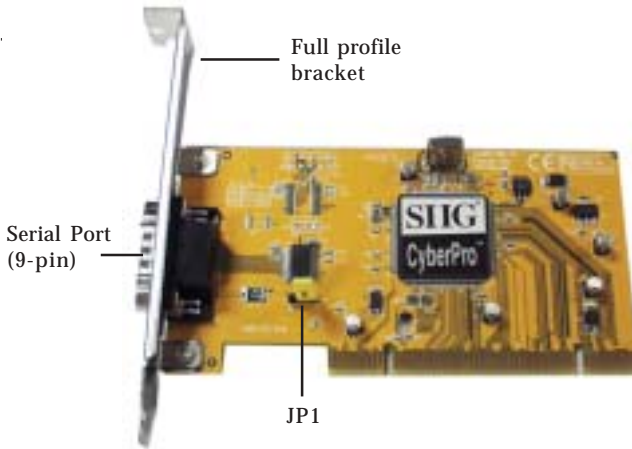

Figure 1. Layout
5. Change **JP1** jumper settings to the desired voltage only if your serial device needs additional power from the serial port. However, most serial devices do not require additional power. For more information go to **Figure 1** on page **2**. The jumper can be removed if power output is not required.